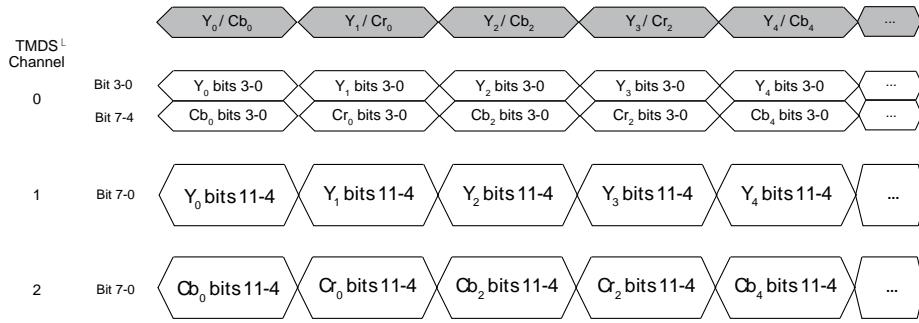
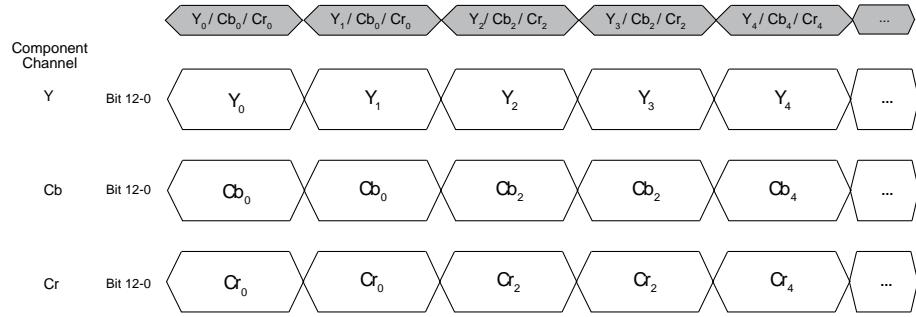

Figure 91: YCbCr 4:2:2 Video Data Encapsulated in HDMI Stream
Figure 92: Video Stream Output by HDMI Core for YCbCr 4:2:2 Input and UP_CONVERSION = 0
- If the HDMI section receives a stream with video encoded in a 4:2:2 format (refer to Figure 91), the HDMI section upconverts the video data into a 4:4:4 format, according to the UP_CONVERSION_MODE bit, and passes the upconverted video data to the DPP section (refer to Figure 92).